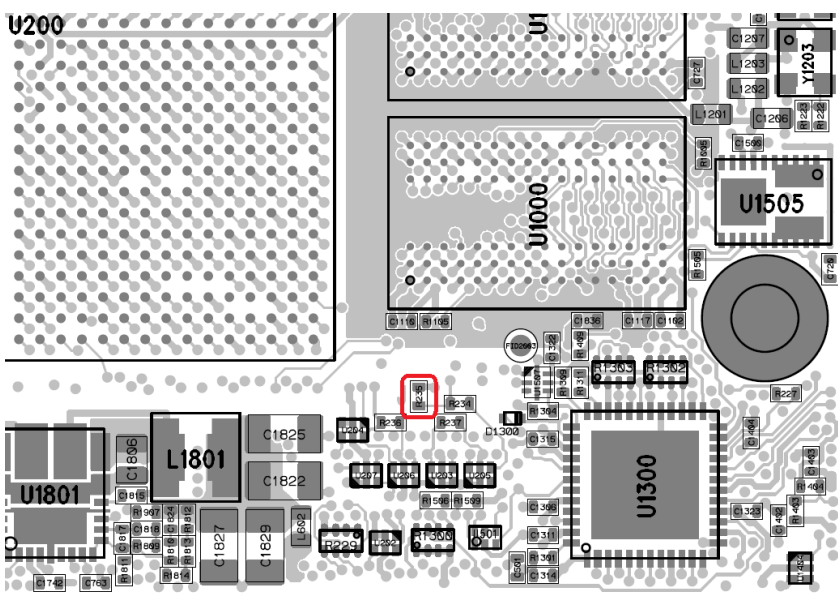

Figure 17: JTAG Boot Mode Resistor - Assembly Drawing Top View (lower right part) for Revision 4 Modules
2. Short-circuit R235 (see Figure 17) while powering-up the module (in order to sample the MPSoC boot selection pins correctly for JTAG boot mode)